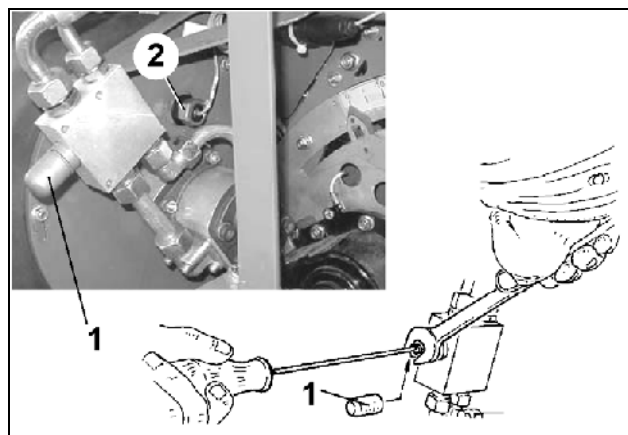

Fig. 106
Please find the required blower fan speed in the table (Table 6). Set the blower fan speed on the pressure relief valve (Fig. 106/2) or on the current regulating valve on the tractor (see below).
- remove dust cap (Fig. 106/1)